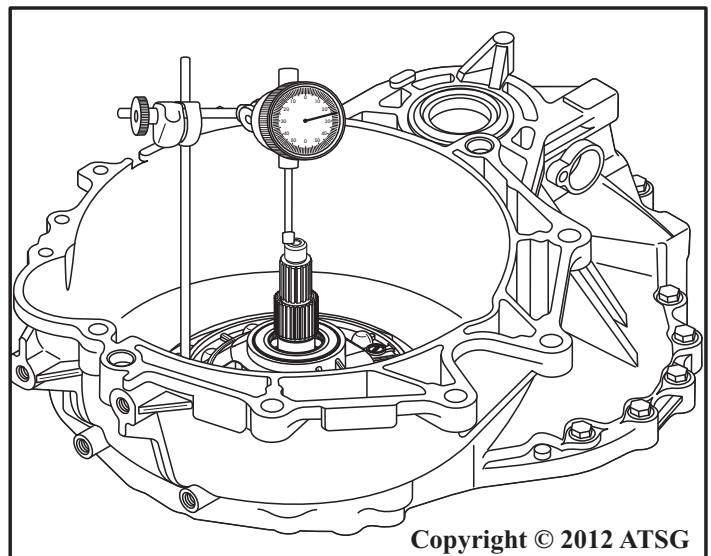

Figure 49
13. As a diagnostic aid, install dial indicator, as shown in Figure 49, measure and record the input shaft end play.